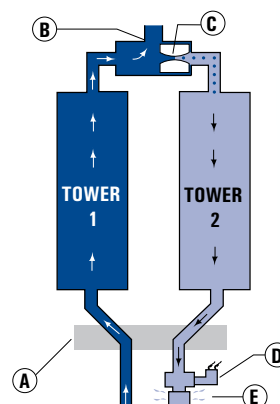
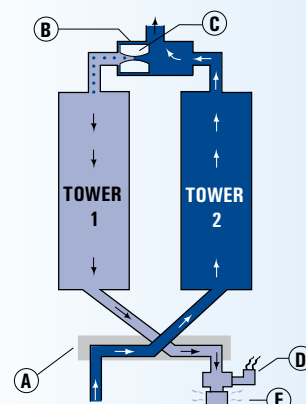

Figure 1
Figure 2
See Figure 1. Compressed air enters the dryer and is directed to Tower 1 by valve (A) and then to the dryer outlet through shuttle valve (B). A portion of the dried air is throttled to near atmospheric pressure by means of orifice (C). This extremely dry, low pressure air flows through and regenerates the desiccant in Tower 2 and is exhausted through purge/repressurization valve (D) and exhaust muffler (E) to atmosphere. After a set time, the automatic solid state timer closes purge/repressurization valve (D) allowing Tower 2 to repressurize slowly. At the end of 5 minutes (when operating on a 10 minute cycle, 2 minutes on a 4 minute cycle), valve (A) shifts and purge/repressurization valve (D) re-opens. See Figure 2. The main air flow is now dried by Tower 2 while Tower 1 is being regenerated.